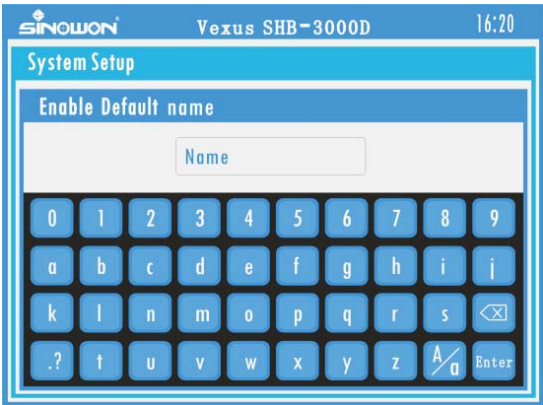

Fig. 6-13
- 6.10.2Click enable default name, then will display name edit dialog box, then input name and click Enter to confirm. Name consist set name and number, see Fig 6-13, the saved name is sinowon01. If not click, default name is 16 digits 0 and increases.